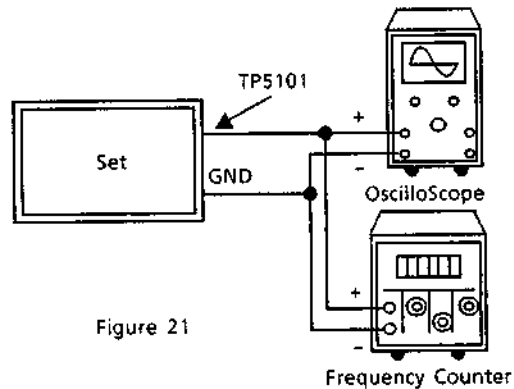

Figure 21
- (1) Make the connections as shown in Figure 21 and turn the power ON.
- (2) Insert the metal tape (TDK AC-712) into deck B and set to REC PLAY mode.
- (3) Adjust L5101 so that the TP5101 output becomes  $105\text{kHz} \pm 0.1\text{kHz}$  in the mode set in (2).